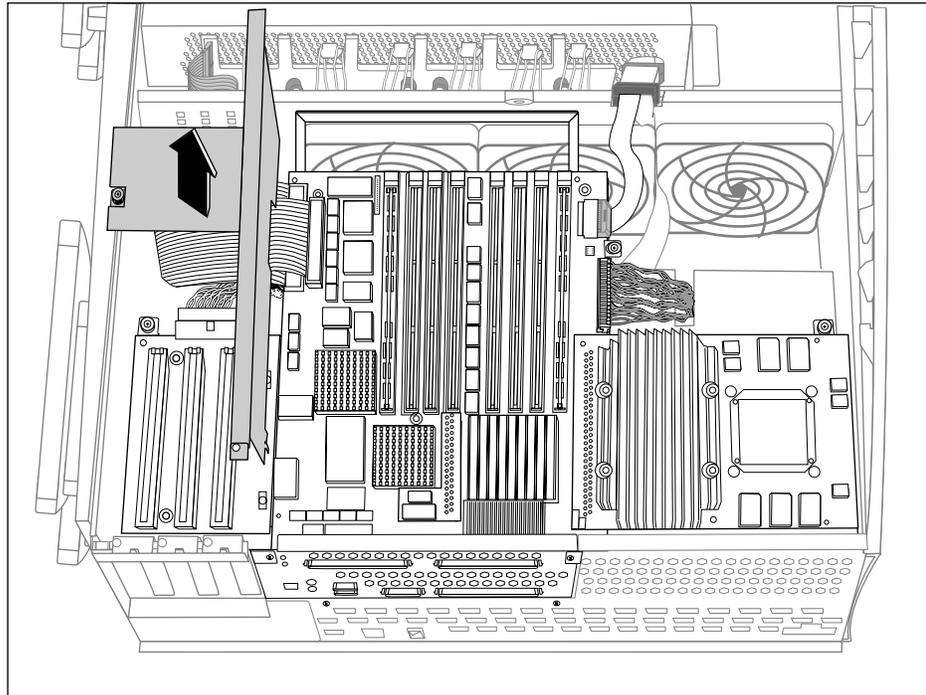

Figure 5-5 Removing the PCI Plenum Divider
3. Lift the PCI plenum divider sheetmetal out of the system, as shown in Figure 5-5.